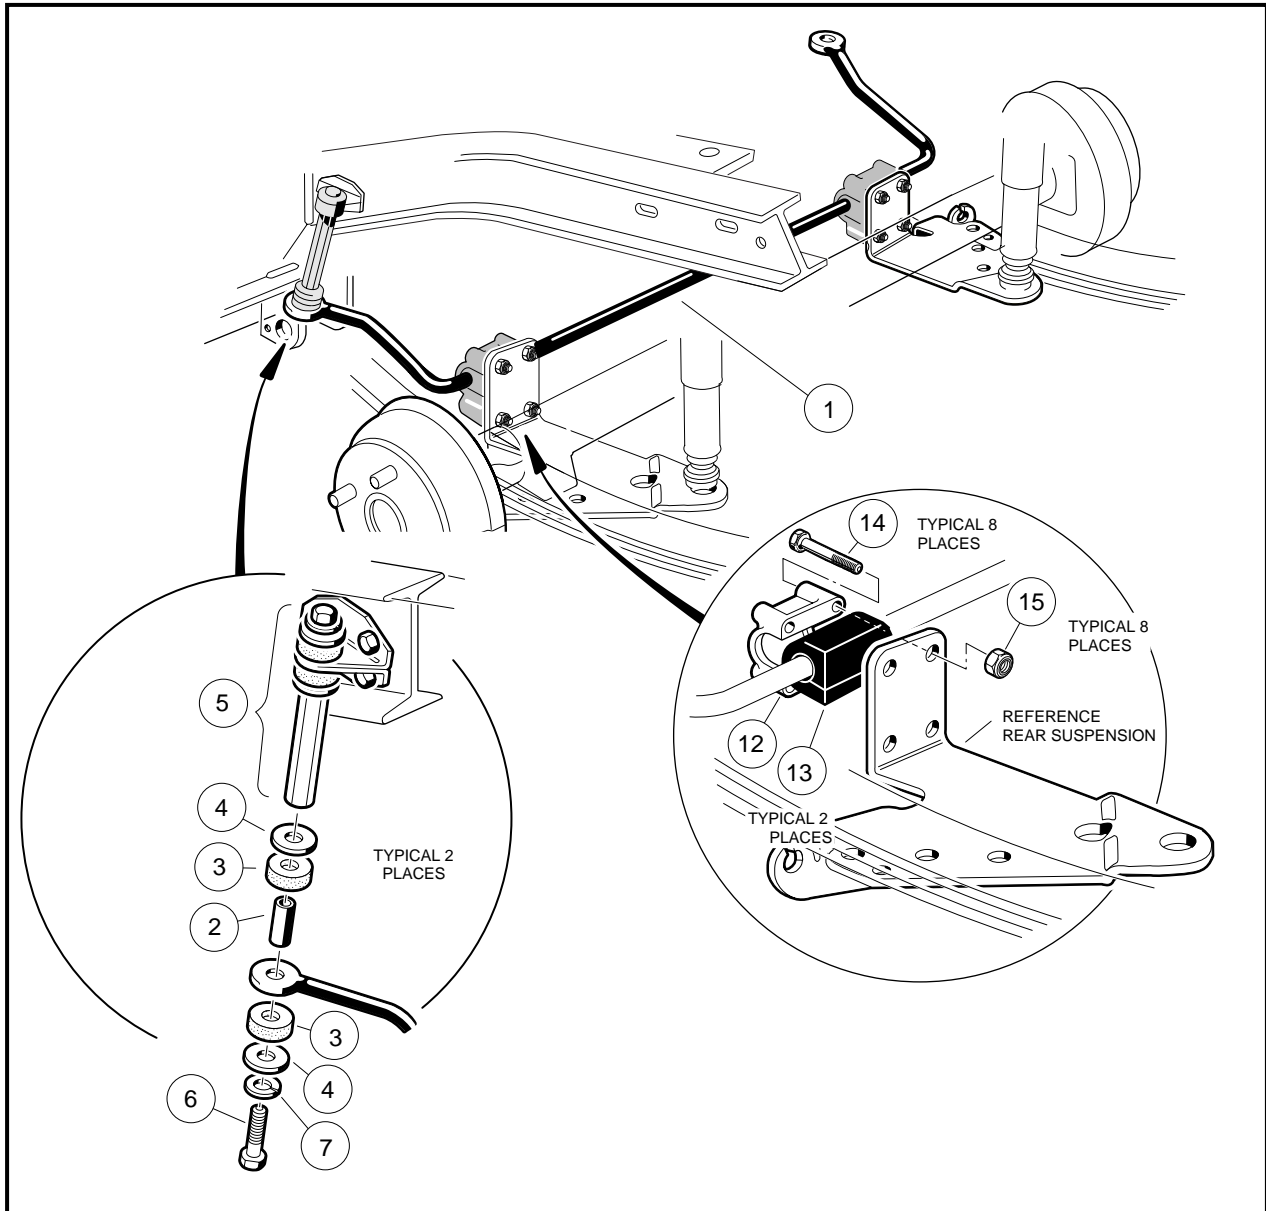

Figure 9-6 Stabilizer Bar
2. Remove bolt (6), lock washer (7), flatwashers (4), compression mounts (3) and spacer (2) from left and right stabilizer bar links (5). Do not remove the stabilizer bar links from frame (**Figure 9-6, Page 9-8**).
3. Remove bolts (14) and locknuts (15) from the left and right stabilizer bar bushing support (12) and remove supports and stabilizer bar (1) from vehicle (**Figure 9-6, Page 9-8**).
4. Remove bushings (13) from stabilizer bar (1) (**Figure 9-6, Page 9-8**).
1. Position stabilizer bar at the transaxle mounting brackets. Install a bushing (13) onto bar, making sure the bushing is located in the center of the four mounting holes in the bracket (**Figure 9-6, Page 9-8**).
2. Place the bushing support (12) onto the bushing. Install four hex head bolts (14) through the bushing support and transaxle mounting bracket (**Figure 9-6, Page 9-8**).
3. Install four locknuts (15) and tighten to 75 in-lb (8.4 N·m).
5. Place lock washer (7), flat washer (4), spacer (2) and compression mount (3) onto bolt (6). Install bolt through mounting hole in stabilizer bar and place another compression mount (3) and flat washer (4) onto bolt (**Figure 9-6, Page 9-8**).
6. Install the bolt (6) with lockwasher (7) through the upper stabilizer bar link mount (8) into the stabilizer bar link (5) and finger tighten.
8. Tighten bolts (6) in the stabilizer bar links (5) to 17 ft-lb (23 N·m).